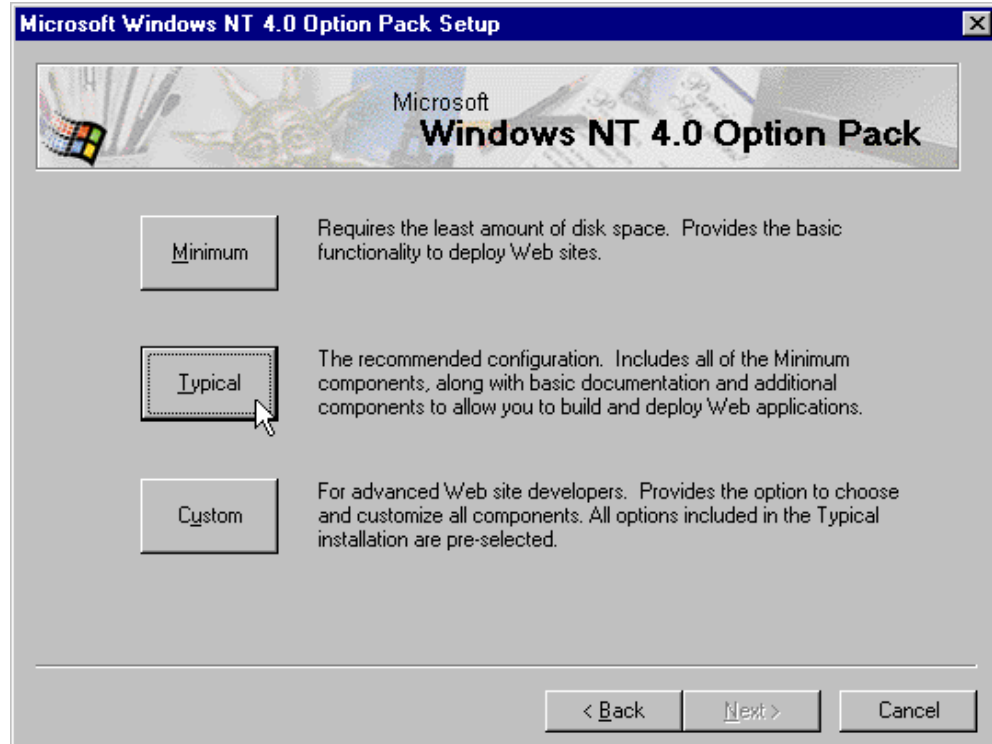

Figure 2.8. Choosing the Components To Be Installed on Your Personal Web Server
3. The dialog box through which you choose the components to be installed on your Personal Web Server will appear, as shown in **Figure 2.8**. It is recommended that you click the **Typical** button. This configuration includes all of the minimum components, plus basic documentation and additional components that will allow you to build and deploy Web applications.